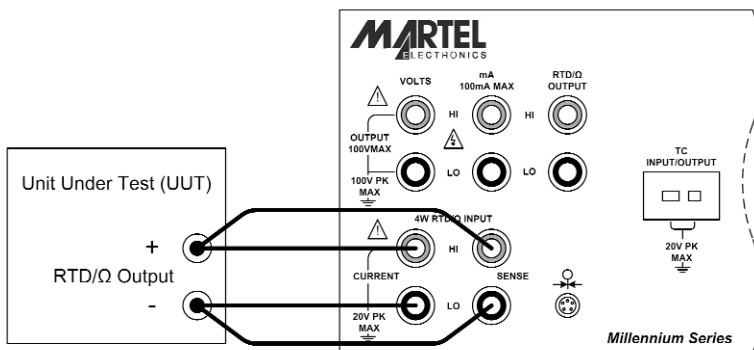

Figure 12 - RTD/ Ω Input Connection
- e) Connect the unit under test to the 4 wire RTD/ Ω input terminals of the 3001 as shown in figure 12.